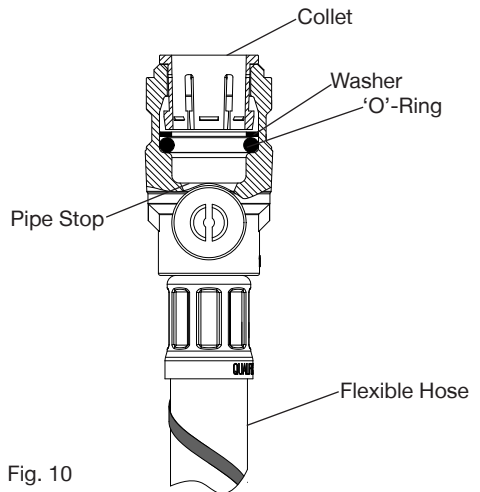

Fig. 10
3. Check in the mouth of the fitting that the 'O'-ring, nylon washer and collet are in position as shown in Fig. 10.